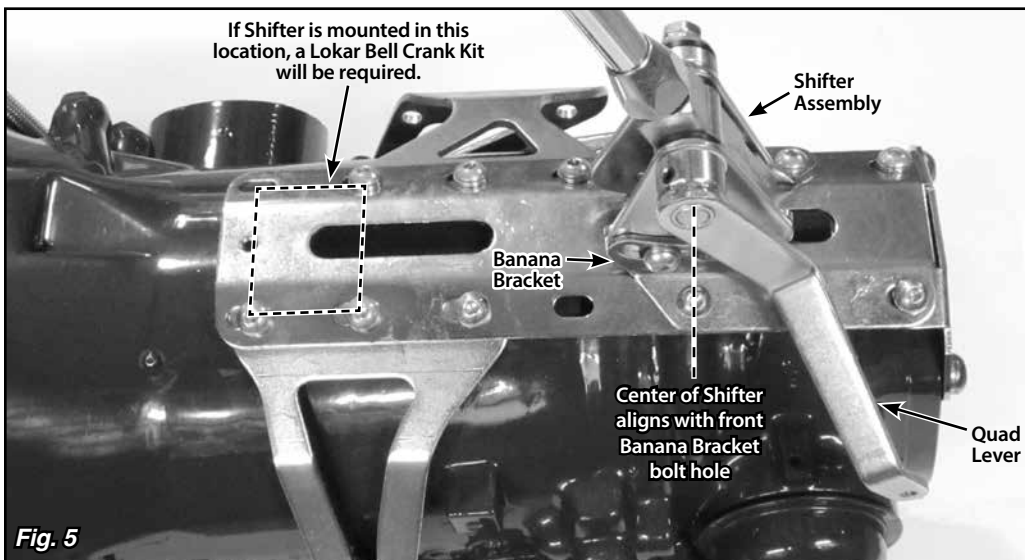

Fig. 5
Transfer that measurement to the transmission (or to the engine/transmission assembly if the engine is not installed in the vehicle). Mark that location on the Shifter's main plate. The holes in the main plate that are closest to your mark are where the **FRONT** banana bracket bolts will need to be installed. **Fig. 5**
**NOTE:** If mounting the shifter assembly all the way forward on a 700-R4 or a 4L60, using the four bolt holes at the very front of the main plate, a Bell Crank Kit (Lokar Part No. ATA-7101 for mechanical speedometer transmission or ATA-7102 for electronic speedometer transmission, sold separately) will be required. **Fig. 5**